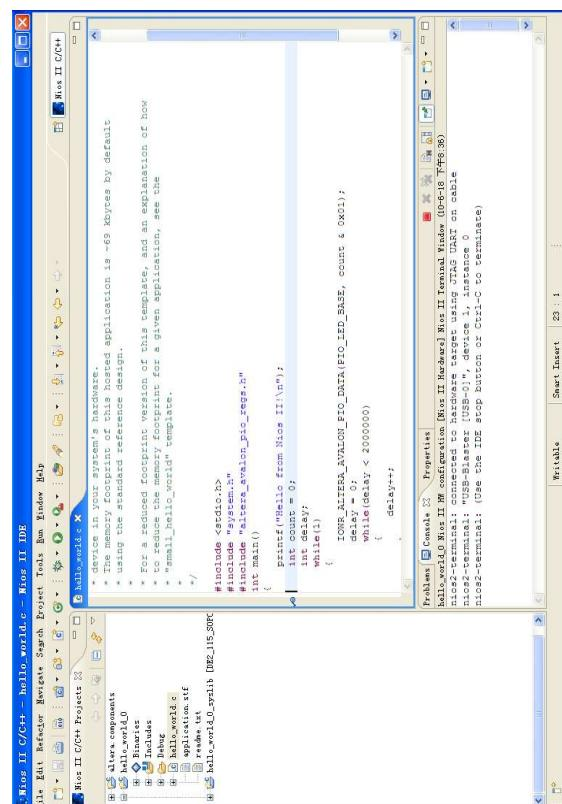

Figure 7-60 Set Breakpoint
1. In the **hello\_world.c**, double-click the front of the line where you would like to set breakpoint, as shown in Figure 7-60.